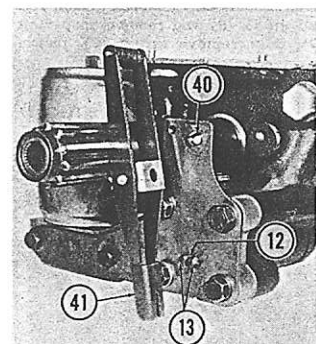

Fig. 295—Hydraulic pump with valve lever removed. Refer to Fig. 297 for parts identification.
252. OVERHAUL. To disassemble the removed hydraulic pump, pull straight out on actuating lever (41—Fig. 295) to free lever from retaining stud (40), then lift the lever off of actuating rod (12) and rollers (13). Remove coupling (22—Fig. 297) or drive gear (22A) on models not equipped with late auxiliary pump drive. Remove nut (1) and unbolt and remove pump cover (24). Remove actuating pin (14—Fig. 296) and rollers (13) and disconnect oscillator (6) from cam follower (27—Fig. 297). Remove control valve and oscillator assembly from the pump.